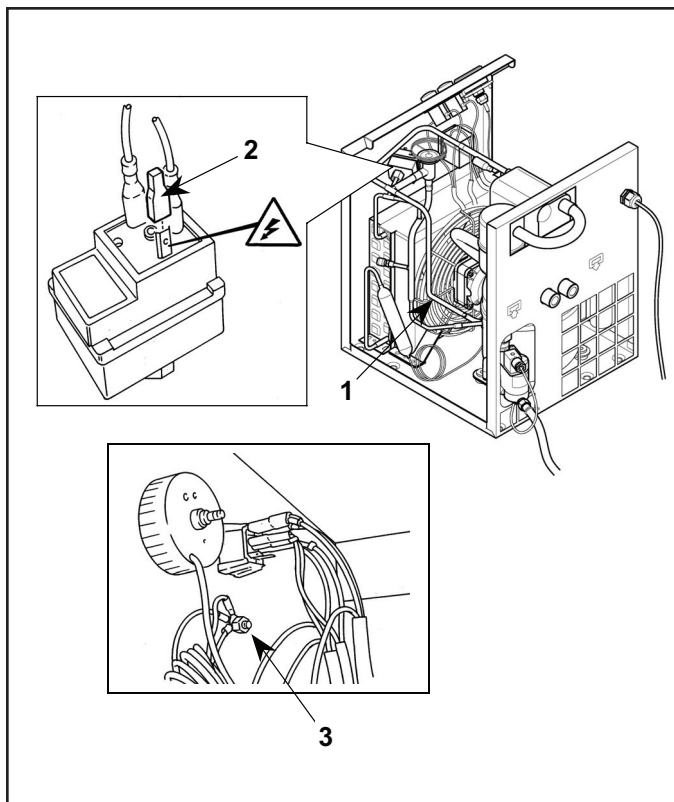

FIGURE 2 — SAFETY DEVICES
The removal of or tampering with the safety devices constitutes a violation of these safety standards. Safety devices include (see Figure 2): (1) cooling fan shield, (2) shield and (3) earth ground.